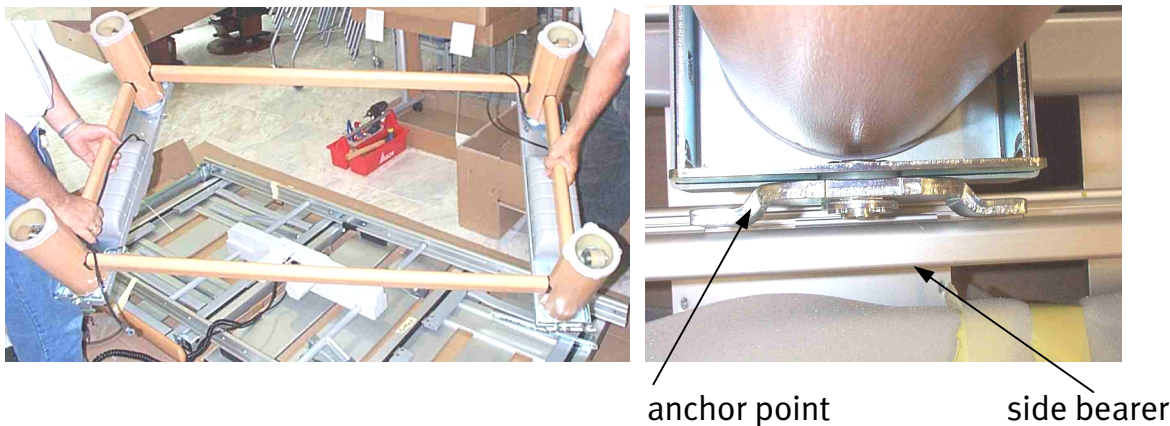

Figure 17
- Place the chassis on to the superstructure with the castors pointing upwards. Make sure that the anchor points for fixing the chassis to the superstructure are situated at the prepared locations (fixing holes, countersinking) on the side bearers (see Figure 17).